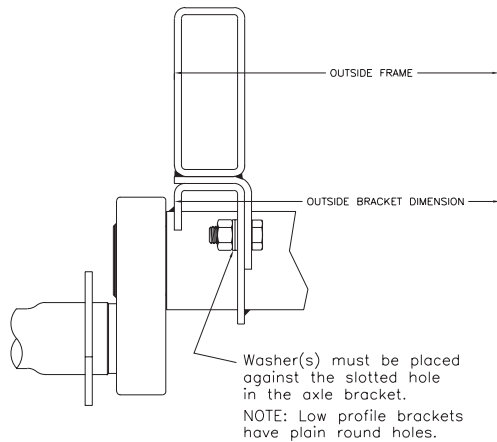

Figure 1
- a. For structural tube type frame rails, refer to figure 1 for the recommended attachment.